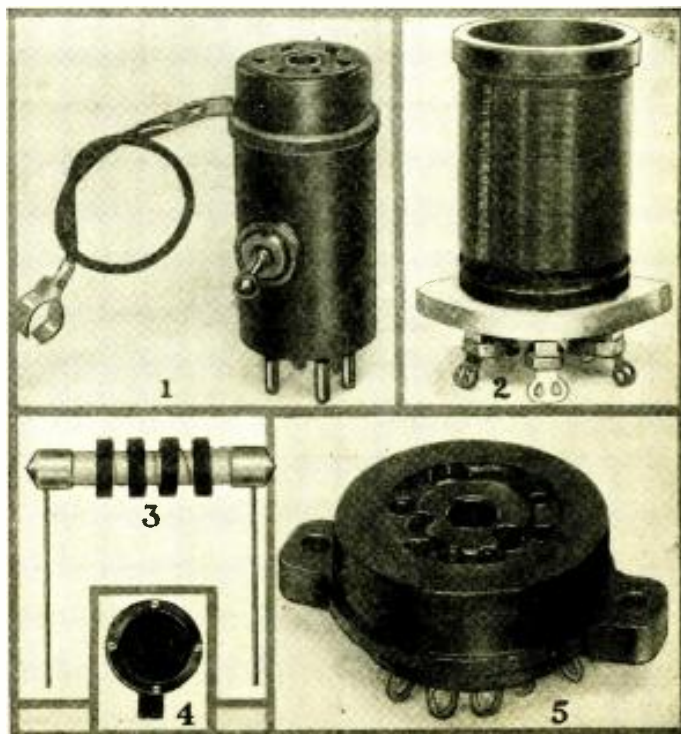

Fig. 4, right
THIS, and the past two issues of RADIO-CRAFT have contained descriptions of adapters suitable for modernizing almost any type of tester. The device shown in (1) of Fig. 4 is a photograph of one of the units. It has a five-prong base and a six-hole top; a 6-inch lead projecting from the socket facilitates connection to the tube cap.
ITEM (2) of Fig. 4 is one of a new series of S. W. coils produced by the National Company. Since the advent of the new 57 and 58 type tubes, there has been very little data available on coil construction suitable for these tubes. The coil shown has a primary, secondary and tickler winding, and connections are made to a six-prong base. Thus the coil may be used as either an antenna coil, or R.F. transformer with or without regeneration. The same coil is suitable for both the 57 and 58 type tubes. A National socket must be used, since the pin spacings are not standard.
SHORT-WAVE chokes have always been a problem. The National Co. has solved this problem by designing the unique choke shown in (3) of Fig. 4. It consists of four narrow sections, each universal wound, spaced on an Isolantite form. Although the chokes are supplied with stiff leads for mounting, they may be placed in standard grid-leak clips.
ITEM (4) of Fig. 4 is a photograph of a new lapel microphone manufactured by the Miles Reproducer Co. They are made in 100- and 200-ohm sizes to suit individual conditions; a two-button type is also made. It is finished in high chromium; weighs approximately two ounces; and the stretched diaphragm is of a special alloy which is finished with a 22½-karat gold plating. It is sensitive; works with 2 to 8 ma.; and has a flat frequency-response curve.
A UNIVERSAL socket, taking four-, five-, and six-prong tubes is one of the latest items by Na-Ald. This universal socket is shown in Fig. 4, item (5). While most set testers are equipped to handle four- and five-prong tubes, they sometimes require so many adapters that the adapters weigh more than the tester itself!